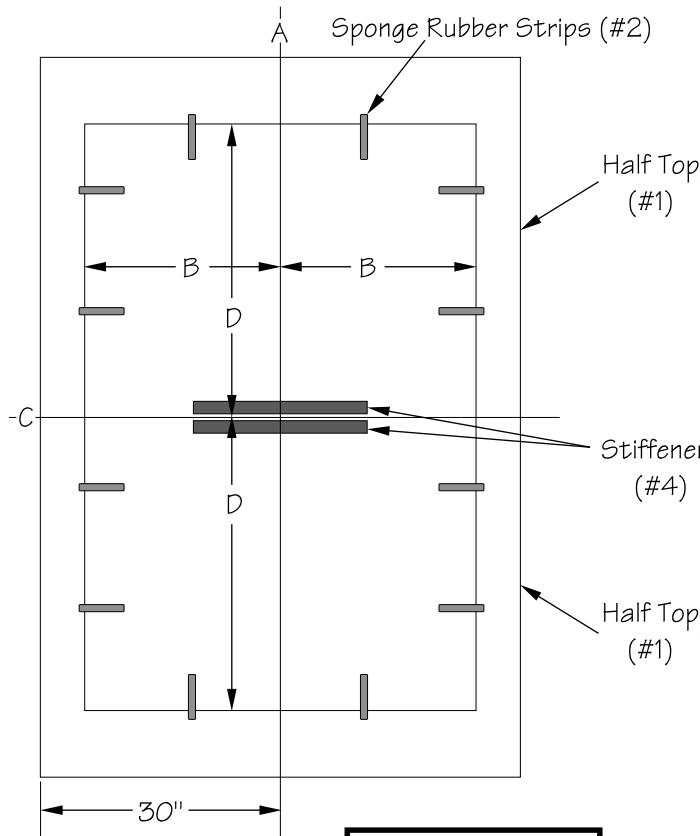

FIGURE 1
- Remove table tennis conversion half tops #1 from carton and place them upside down on the carton or carpeted floor. Put ends with stiffeners #4 together (See Figures 1 & 2).
- Determine the placement of sponge rubber strips #2 on the bottom of half tops #1 as follows (Use Figure 1):
- Mark center line (A) along the length of conversion top. Top is 60 inches wide. Center line (A) is 30 inches in from either side.
- Divide the width of your pool table in half and mark the bottom of the conversion top this amount (B). Measure from center line (A) out toward both sides. These mark the sides of your pool table.
- Divide length of pool table in half and mark the bottom of the conversion top this amount (D). Measure from center line (C) (where two half tops #1 touch) out towards both ends. These mark the ends of your pool table.